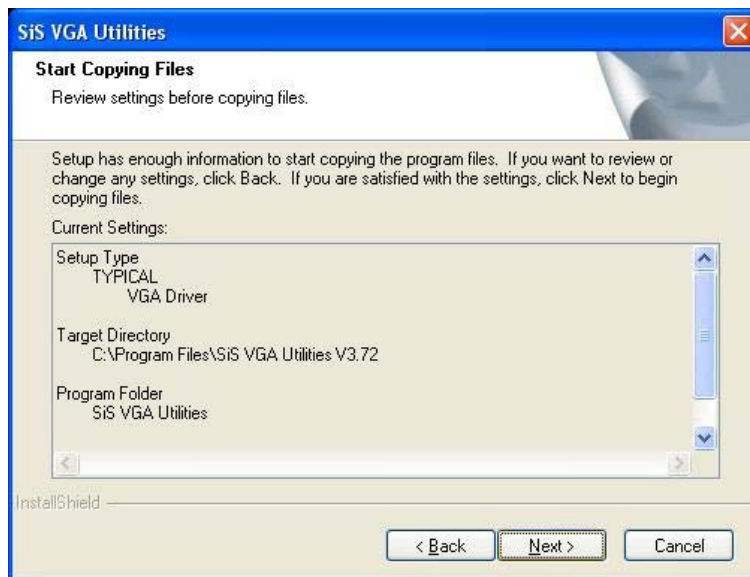

Figure 6-9: Review Settings
Step 2: A new window appears showing the folder contents on the CD for the VGA driver (Figure 6-9).
Step 10: Before the files are copied, you can review you selected settings (see **Figure 6-9**). Once you have completed reviewing your settings, click on the **NEXT** button.